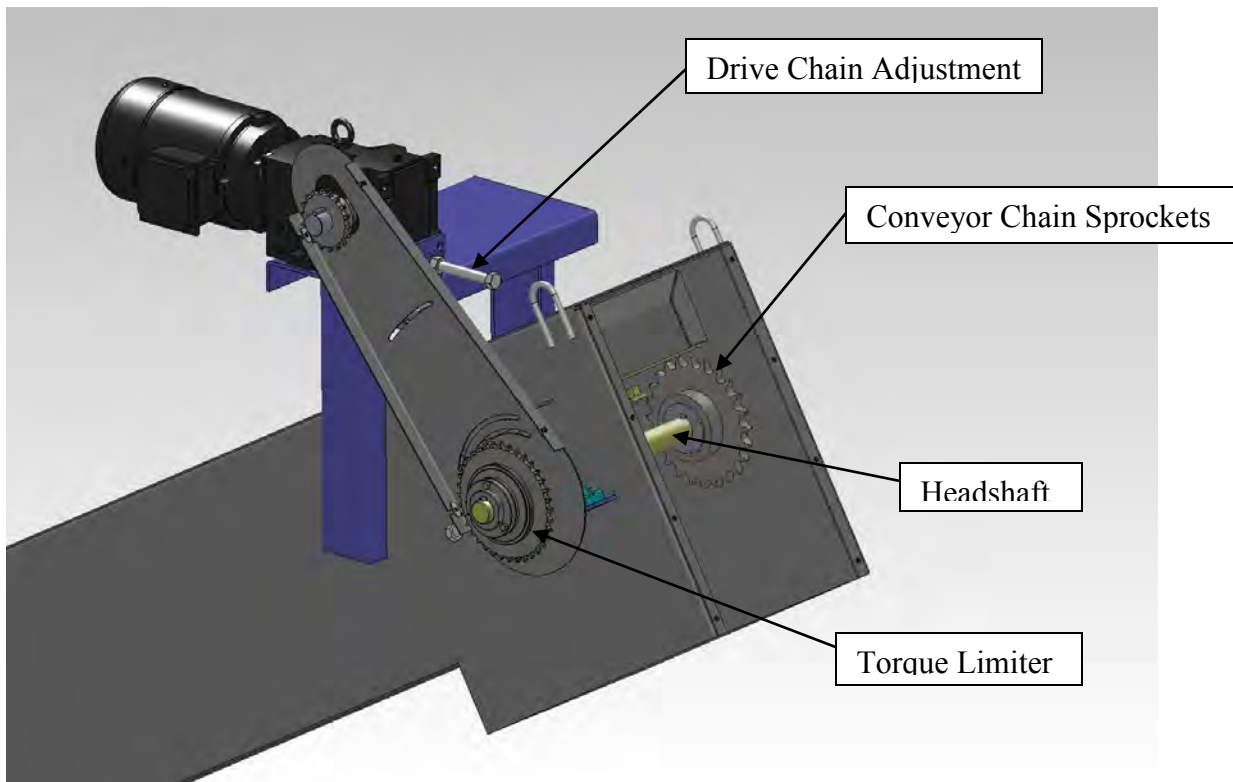

Figure 1 – Drive Arrangement
- This conveyor is driven by gearmotor. The gearmotor transmits power through the roller chain. There is a torque limiter mounted directly onto the headshaft. The headshaft has conveyor chain sprockets mounted to it, which drive the combo belt. (Figure 1)